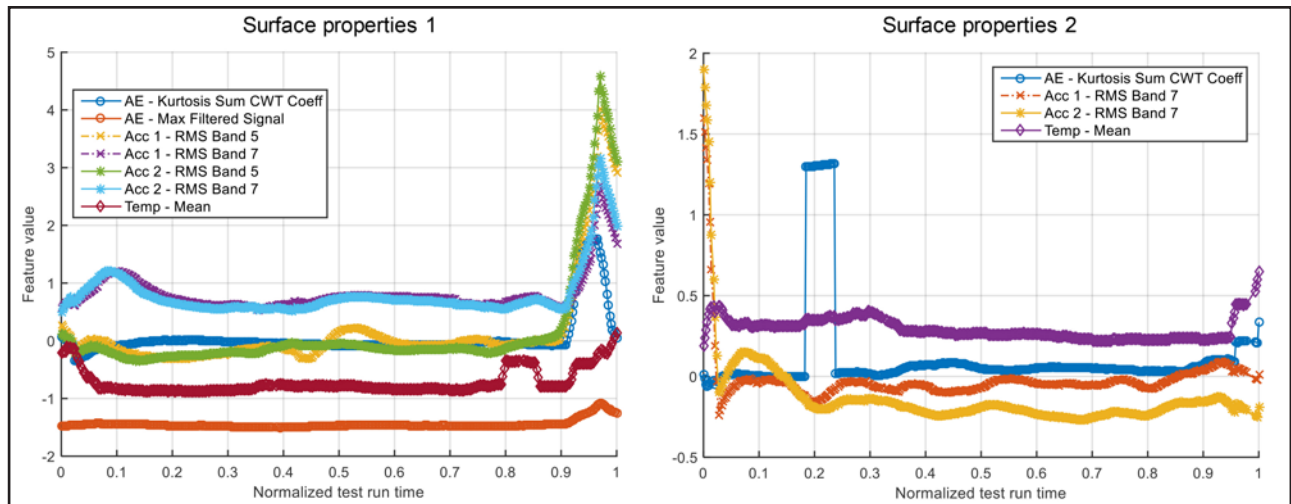

Figure 11 Pitting detection features generated from SP1 and SP2 tests.
**Surface properties (SP) tests.** The evaluation of the features generated from the SP tests showed that in comparison to the PE tests the oil temperature within the tested gears increased with tooth pitting. The authors cannot explain how the gear geometry deviations influence the oil temperature. To answer this question further investigation is required. In Figure 11 the left plot shows the resulting features for the SP1 test, where pitting could be detected 230 minutes (corresponds to 91% of test
Because the SP2 variant failed with a broken tooth over the stepped tooth root before any pitting occurred, no significant feature value variations are generated in this test, as shown in the right plot in Figure 11.